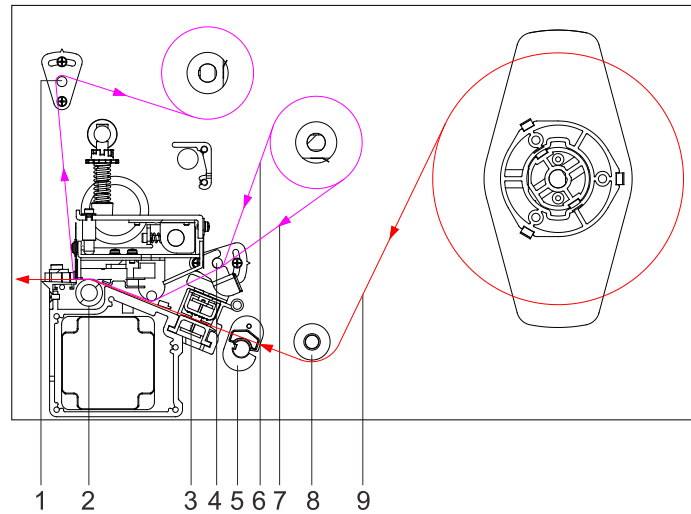
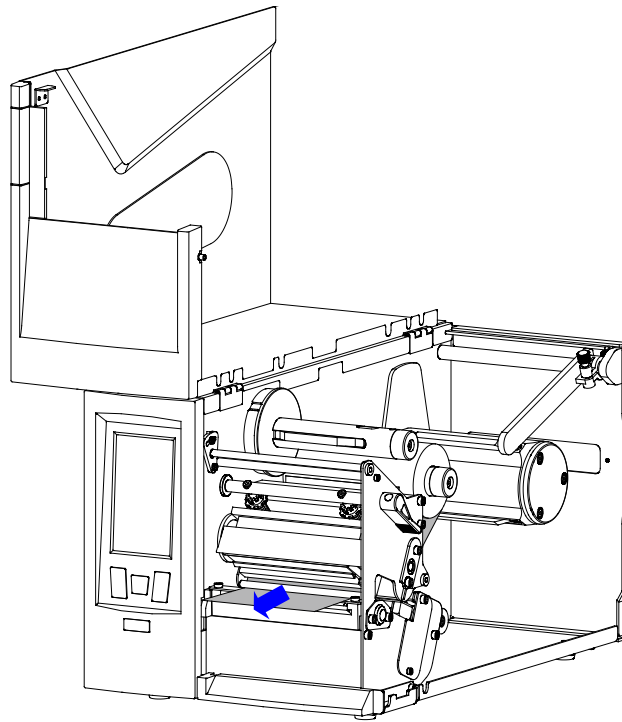

Figure 2-4 Loading Paths in Tear-off Mode
Figure 2-11 Thread Ribbon through Printhead Assembly
Figure 2-4 shows the consumables' loading paths in Tear-off mode.
5. Follow the ribbon path indicated in Figure 2-4, thread the ribbon under the Ribbon Guide Rod and pass the Printhead Assembly, make sure that the ribbon's ink side is facing the media. See Figure 2-11.